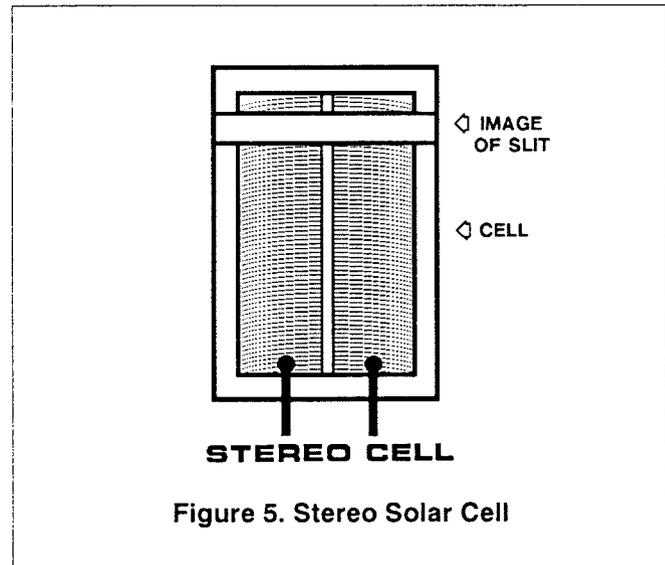

Figure 5. Stereo Solar Cell
(A) Mount the stereo solar cell on the projector and position the bracket, so that the slit image hits the upper part of the cell. The cell should be approximately 0.040 inch (1 mm) behind the film such that the slit image just fills the cell width, but does NOT spill over. See *Figures 5 and 6*.